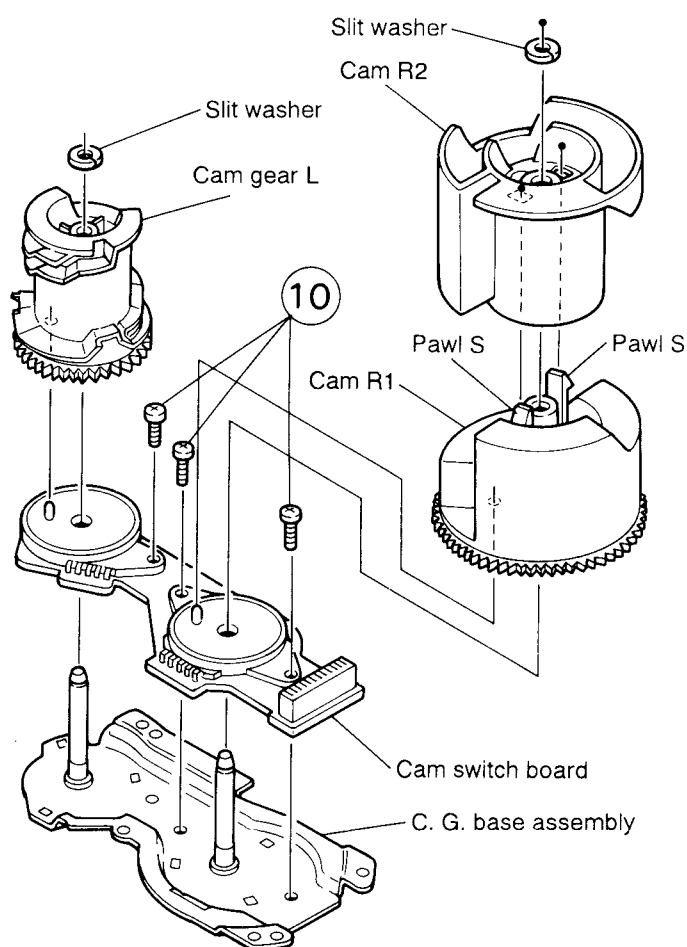

Fig. 5-37
■ Removing the cams R1/R2 assembly and cam gear L (See Fig. 5-37).
2. By removing the two pawls (S) fixing the cam R1, separate R2 from R1.
■ Removing the C.G. base assembly (See Figs. 5-37 and 5-38).